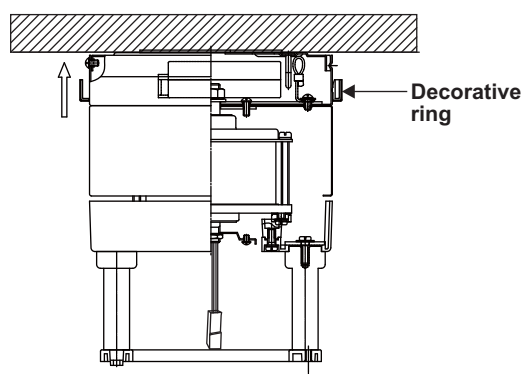

Figure 11
2. Raise up decorative ring and line up the four tabs with the four grooves on the motor housing. Once lined up, slide the decorative ring up to the motor housing until snug. (Fig. 11)